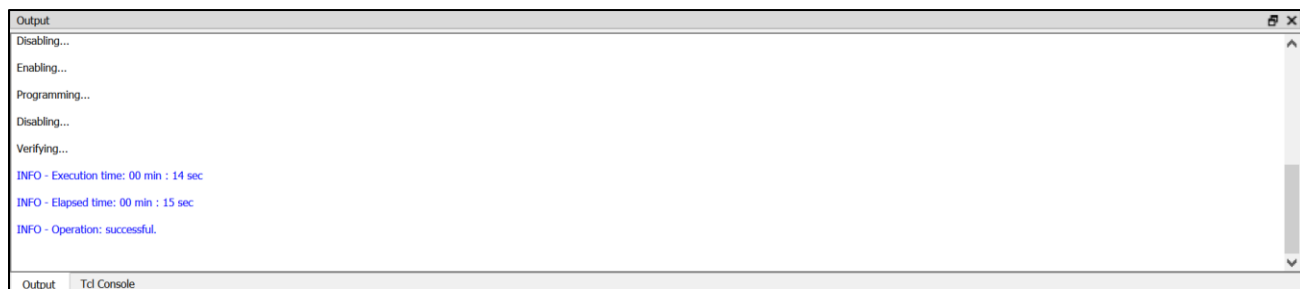

Figure 4.9. Lattice Radiant Programmer – Output Console
7. After successful programming, the **Output** console displays the result, as shown in Figure 4.9.